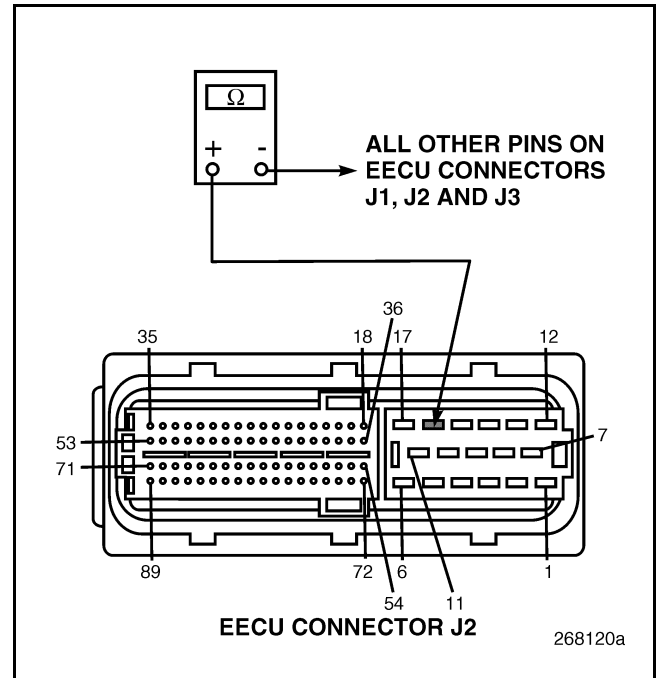

Figure 532
4. Check for continuity between EECU harness connector J2 pin 16 and all other pins on EECU connectors J1, J2 and J3 (see Figure 532).